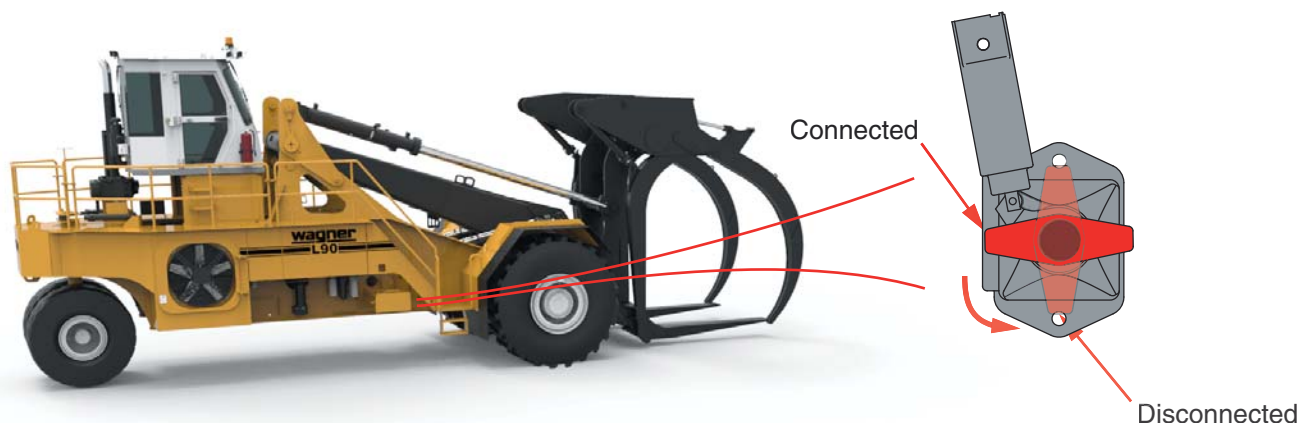

Figure 5-1-1 Battery Disconnect Switch Location
Always set the Battery Disconnect switch to "OFF" before performing any welding. The Battery Disconnect Switch is located on the right side of the machine (See Figure 5-1-1). Turn the switch counterclockwise to disconnect the batteries.
- Set Battery Disconnect Switch to OFF located on the left side of the machine (See Figure 5-1-1).